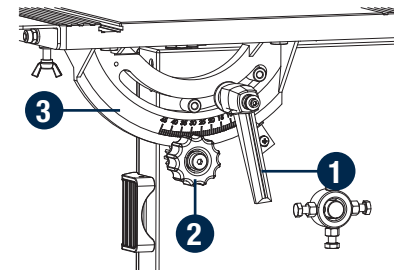

Fig. 8
**WORK TABLE TILT ADJUSTMENT (Fig. 8)**